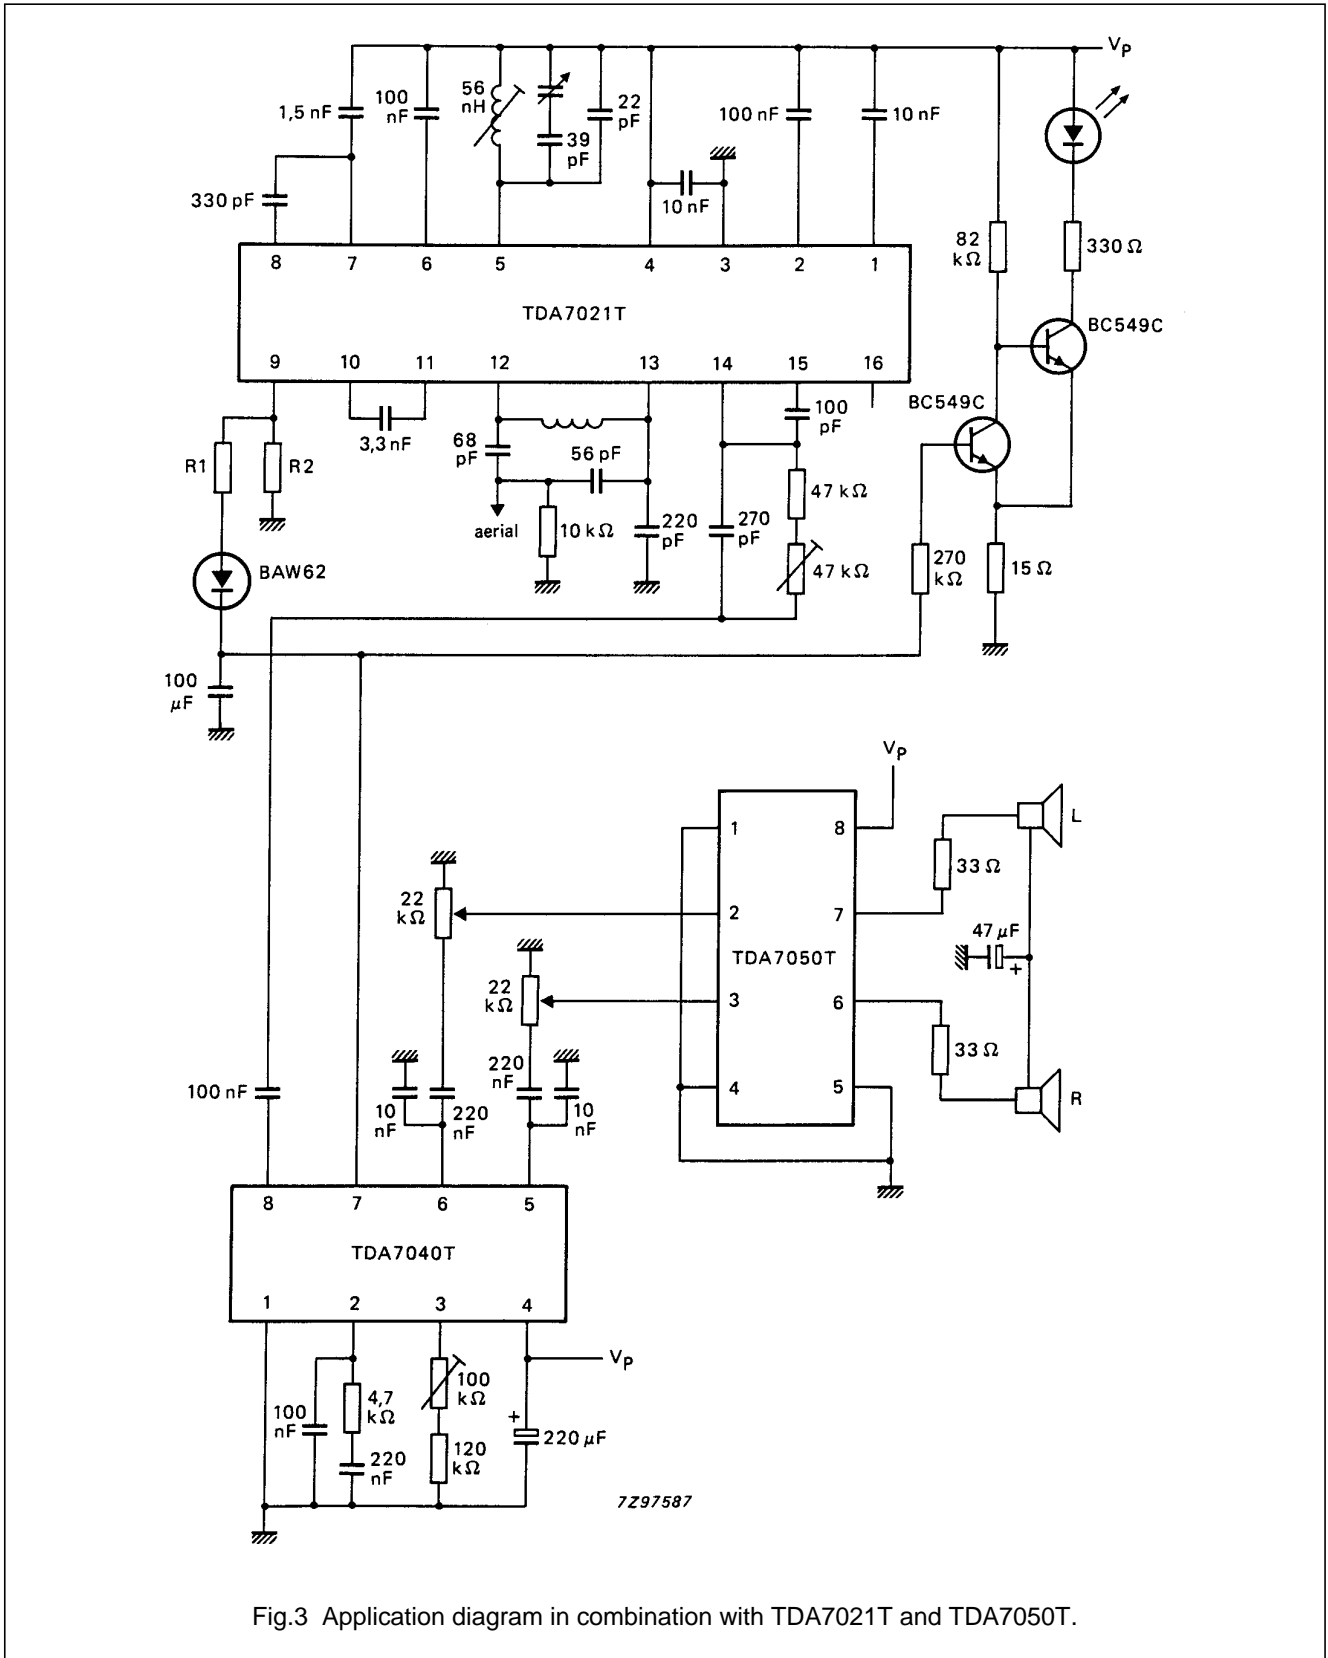

Fig.3 Application diagram in combination with TDA7021T and TDA7050T.
**Of the combination TDA7021T, TDA7040T and TDA7050T (Fig.3).**